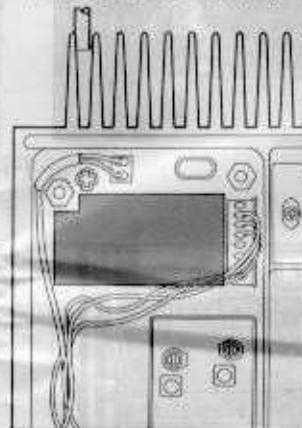

Figure 5
2. Referring to Figure 5, locate and remove the dummy board at the rear left corner of the chassis.